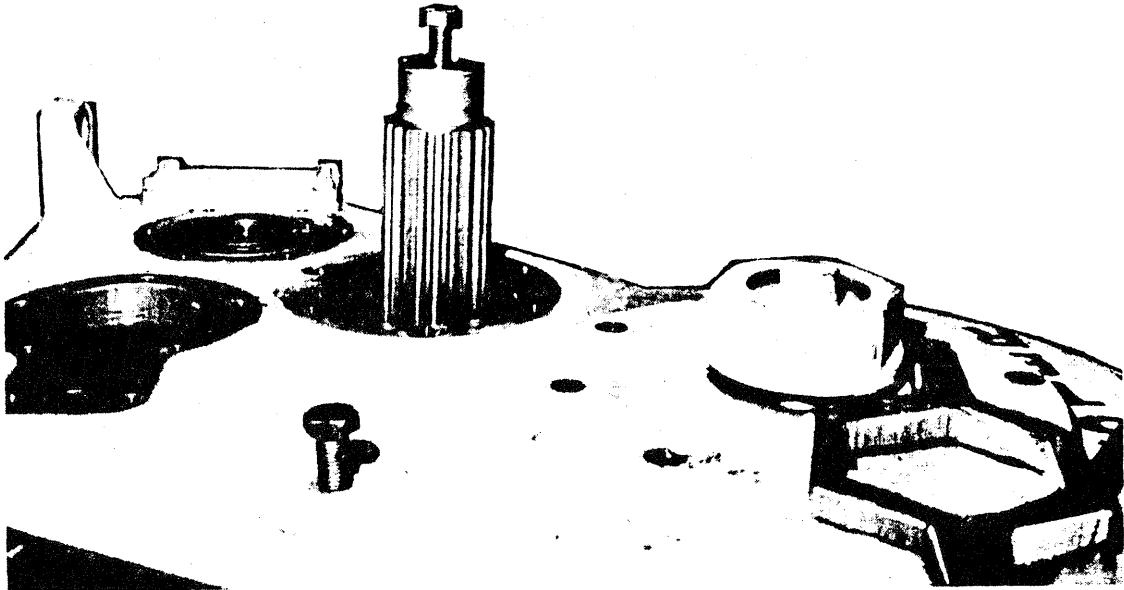

Figure 15
3. Pull shaft as shown in Figure 15.